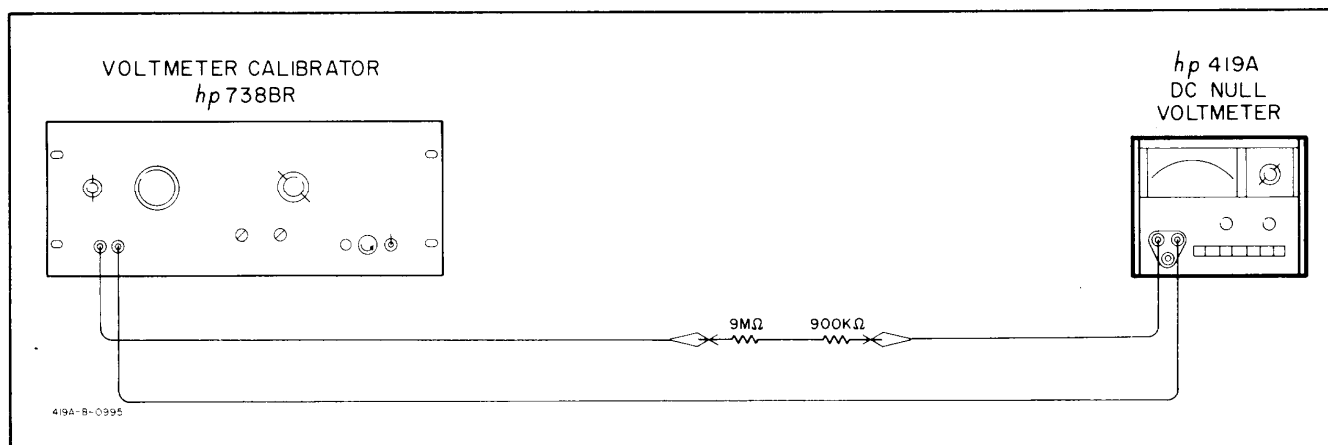

Figure 5-2. Ammeter Accuracy Test Setup
5-12. The ammeter accuracy performance test is illustrated in Figure 5-2. A voltmeter calibrator (-hp- Model 738BR), a 9 MΩ resistor (-hp- Part No. 0698-5443) and a 900 kΩ resistor (-hp- Part No. 0698-5488) are required for this test.
- Connect test setup illustrated in Figure 5-2.